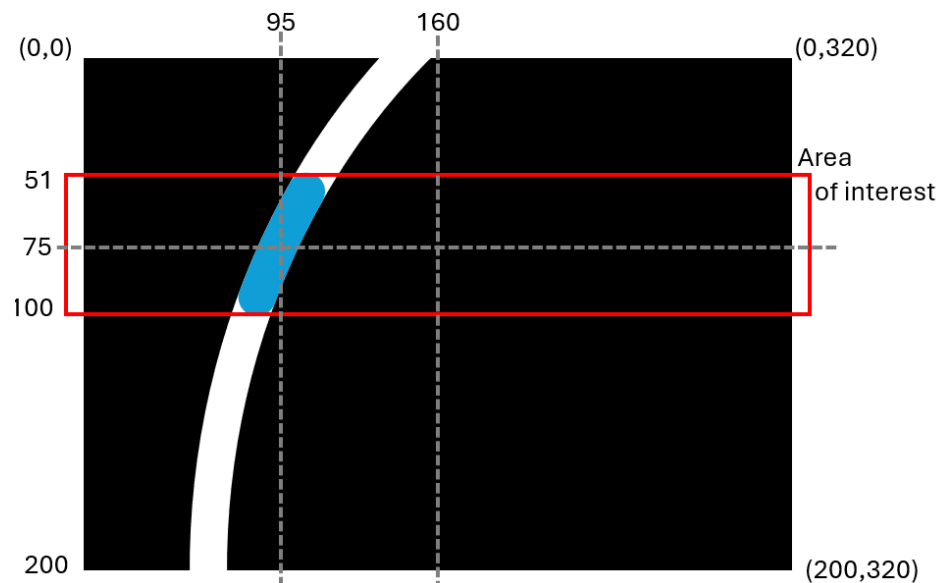

Figure 4. Image with the blob of interest in blue.
2. Using the **ctr** output (center of the blob) from the **Image Find Objects** block, find the error representing the difference between the center of the line and the center of the camera feed. Consider the image is 320 pixels wide and you want the distance between the blob center and the image center. Figure 4 will help you visualize this.
3. Find the error angle of the blob center based on the bottom center of the image. Use Figure 4 as a reference to find the correct geometric function to use. The angle error angle will be used for determining the turn speed command for the QBot.